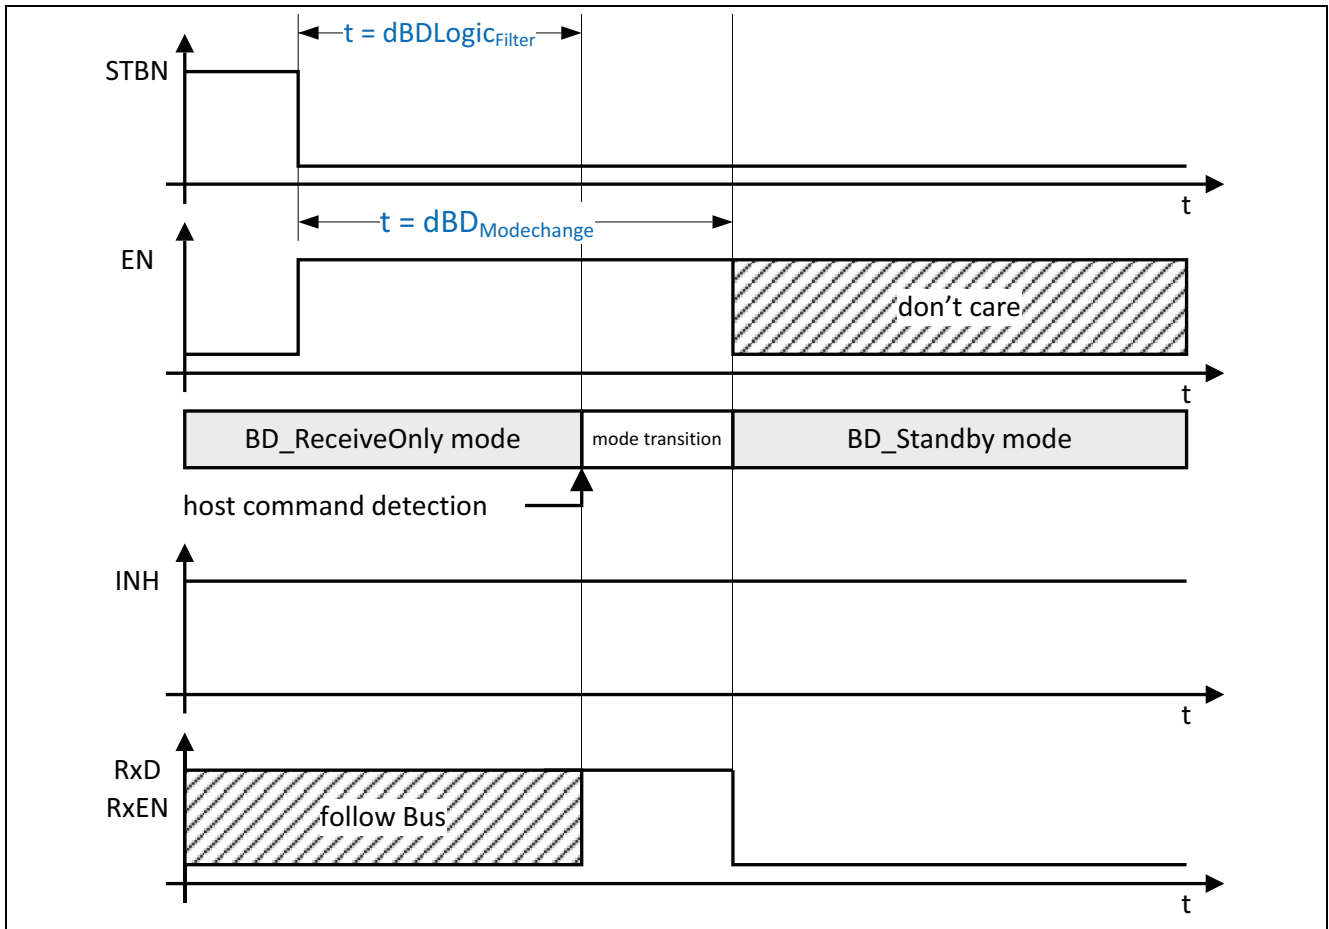

Figure 34 Changing over to BD_Standby, with an active wake-up flag
- 10) The BD_GoToSleep command cannot be executed while the wake-up flag is active (see Figure 34). The TLE9221SX changes over directly to BD_StandBy mode.
Applying the BD_GoToSleep host command to the TLE9221SX, while the wake-up flag is active, changes the operating mode directly to BD_Standby mode. The RxD and RxEN outputs are set to “low” and indicate a previous wake-up event (see Figure 34 and Table 13).